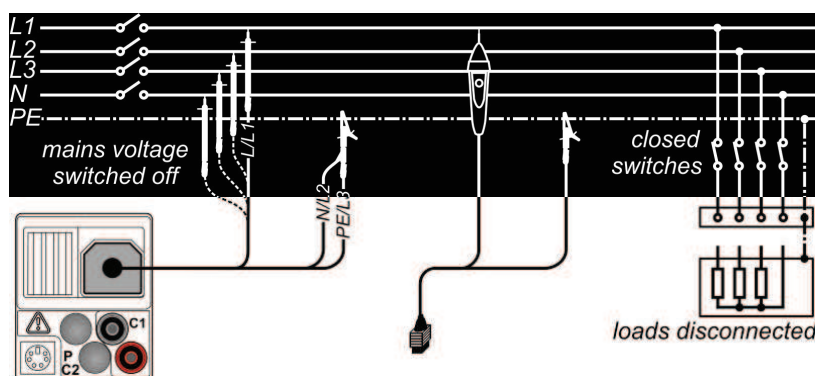

Figure 5.6: Connection of the three-wire test cable and the "Commander" test probe
- ❑ Connect the test cables to the test object (see figure 5.6).